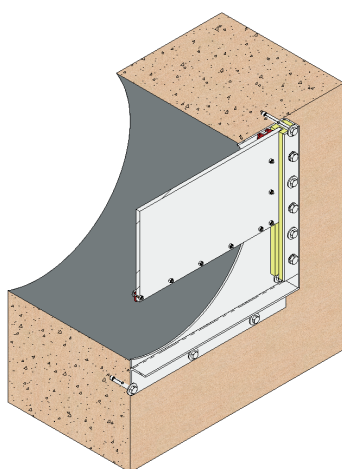
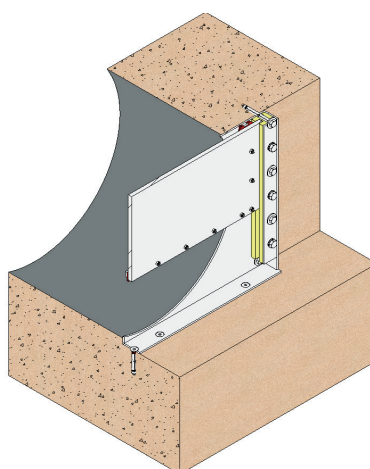

Fig. 31
Fig. 32
As described above, the most common system to mount these wall penstocks is by supporting them on the wall and securing with chemical or expansion anchors (fig. 31), although, as can be seen in fig. 32 and 33, there are other assembly options.
- In order to mount the penstock using chemical or expansion anchors (the most common way), place the penstock completely open on the wall, ensuring the passage of the penstock coincides with the orifice of the wall. Using the holes of the body of the penstock as a guide, make the boreholes in the wall for the chemical or expansion anchors. Remove the penstock and apply sealing paste such as SIKAFLEX-11FC or similar where the penstock is to be located, in order to prevent leakages between the body and the wall. Return the penstock to its location and screw down using the chemical or expansion anchors. Take care to screw crosswise, using a flat rule and without excessive force, in order to ensure the penstock does not become deformed. This procedure can be used both for flat base (fig. 32) and standard penstocks (fig. 31).